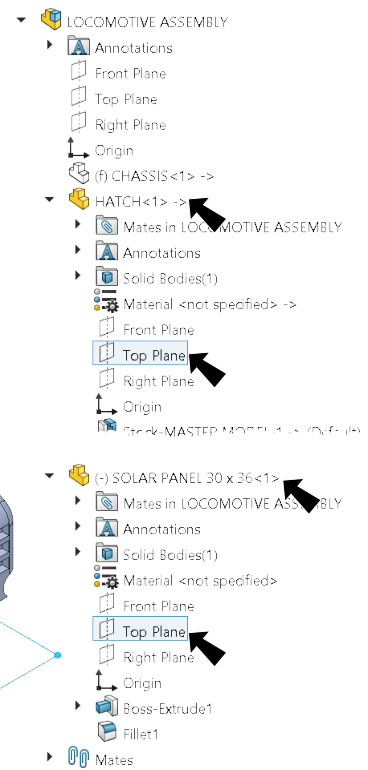

Fig. 14
Step 4. In the flyout Feature Manager design tree, expand **Hatch** and click **Top Plane** and expand **Solar Panel** and click **Top Plane**, Fig. 14.